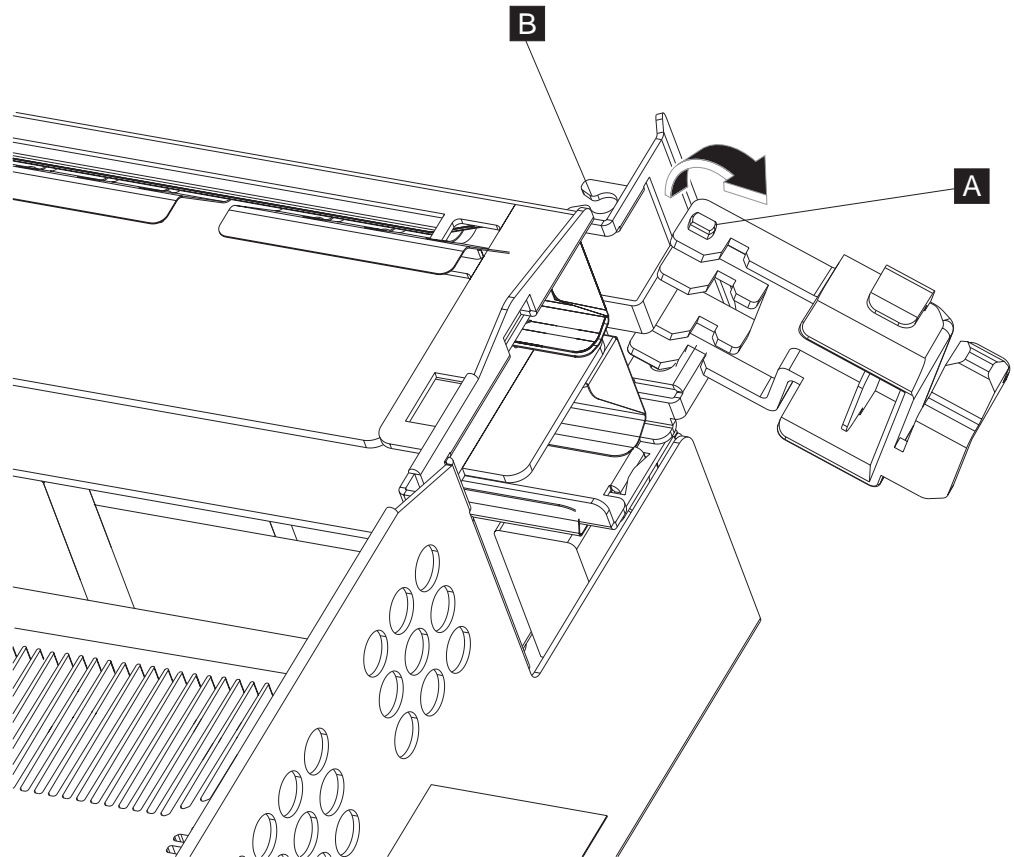

Figure 25. Removing the I/O module latch
2. Press down on the top locking tab of the I/O module latch ( **A** in Figure 25) and pivot the latch downward, out of its sockets ( **B** ).